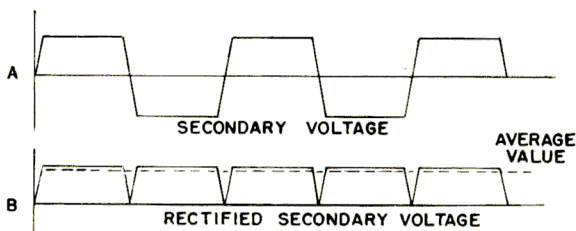

Figure 2
This action produces the effect of square-wave excitation of the primary circuit—which of course is carried over to the secondary. See Figure 2 (A). Capacitor C in Figure 1 absorbs the inductive kick which occurs when the current flow is reversed. (If not suppressed, this kick would put "spikes" on the edges of the square wave, produce high surge currents through the rectifiers and cause sparking at the vibrator contacts.)
When the secondary voltage is rectified by a full-wave system, the output appears as in Figure 2 (B). Obviously, filtering this output is a relatively easy task. In addition, this wave form is extremely easy on rectifiers since the peak voltage is just slightly higher than the output voltage—resulting in relatively low peak currents through the rectifiers as compared with the usual power supply.